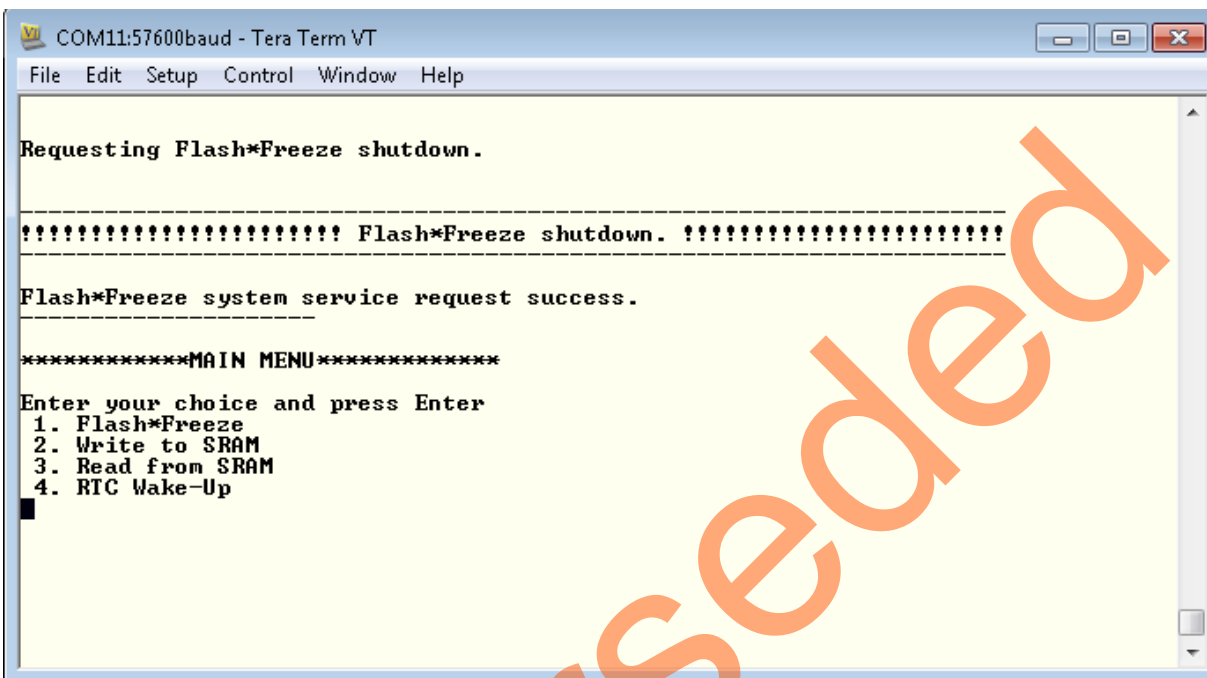

Figure 15 • Flash*Freeze Shutdown
1. Select 1 (Flash*Freeze). This will put the device state into F*F mode, as shown in Figure 15.
1. Select 1 (Flash*Freeze). This puts the device into F*F mode, as shown in Figure 15 on page 15. Note that the LEDs on the board stop toggling, which indicates that the SmartFusion2 device entered into F*F mode.
- Select 1 (Flash*Freeze). This puts the device into F*F mode, as shown in Figure 15 on page 15. Note that the LEDs on the board stop toggling, which indicates that the SmartFusion2 entered into F*F mode.
- To wake-up the device from F*F mode, toggle DIP switches 1 and 2 to 0 position (ON) **AND** toggle DIP switches 3 and 4 to 1 position (OFF). Up on this setting, the device exits from F*F mode.
2. Select **1** (Flash*Freeze). This puts the device into F*F mode, as shown in Figure 15 on page 15. Note that the LEDs on the board stop toggling, which indicates that the SmartFusion2 entered into F*F mode.